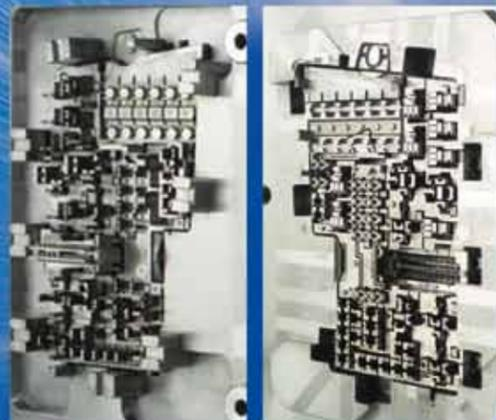

Fig.21
14) If the accuracy in the vertical plane is out of tolerance, take off the turret from the raiser block and mill the front and rear spacer (see A in Fig. 21 and Fig. 13) to adjust its vertical accuracy.